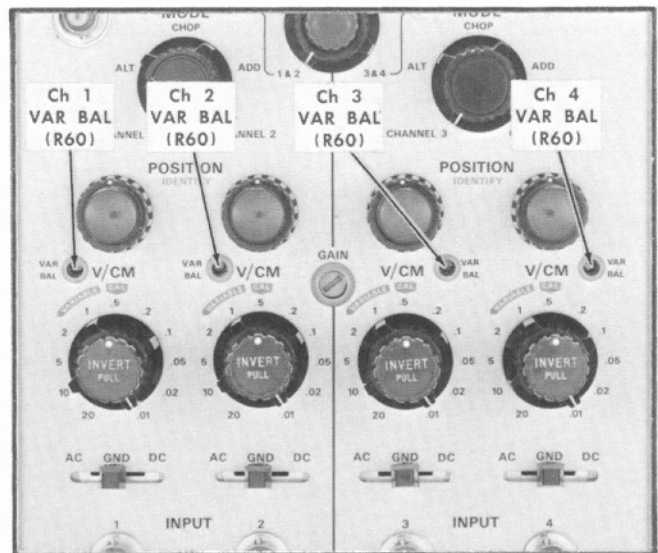

Fig. 7-21. Location of the VAR BAL adjustments.
- c. ADJUST—Channel 1 VAR BAL (see Fig. 7-21) for no trace shift as the Channel 1 VARIABLE control is rotated back and forth through its range. Return the VARIABLE control to the CAL position.